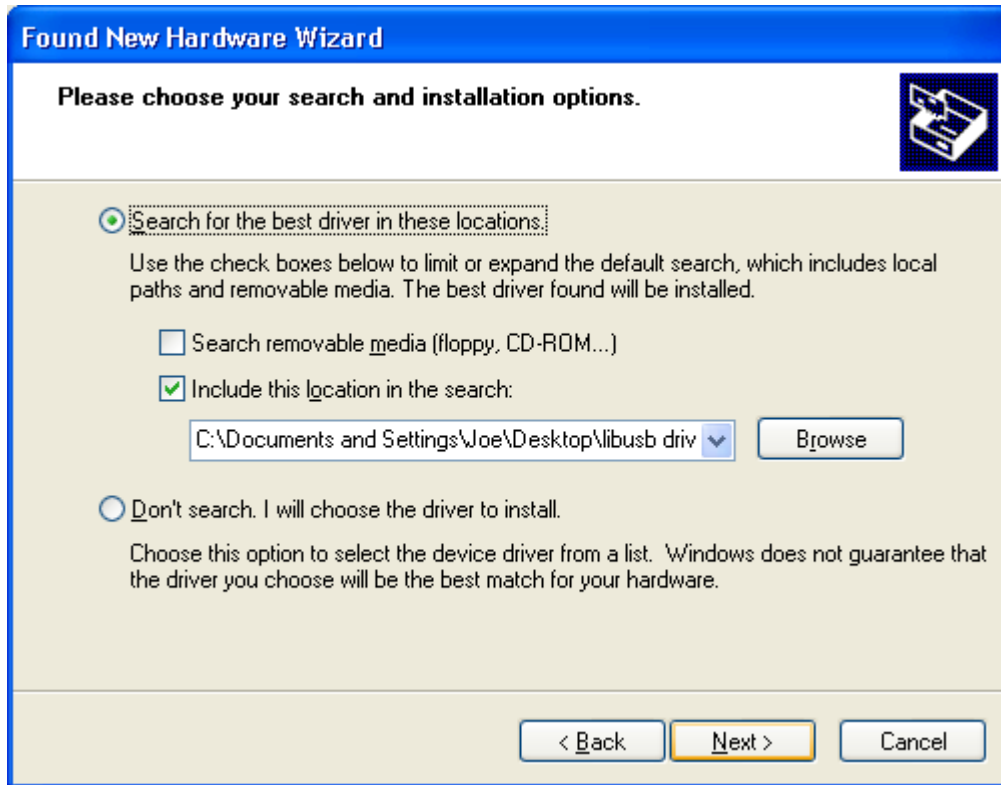

Fig 13: Found New Hardware - Browse to Folder Containing LibUSB
3. Browse to the folder you downloaded the LibUSB driver to and click **Next** (see Fig 13).